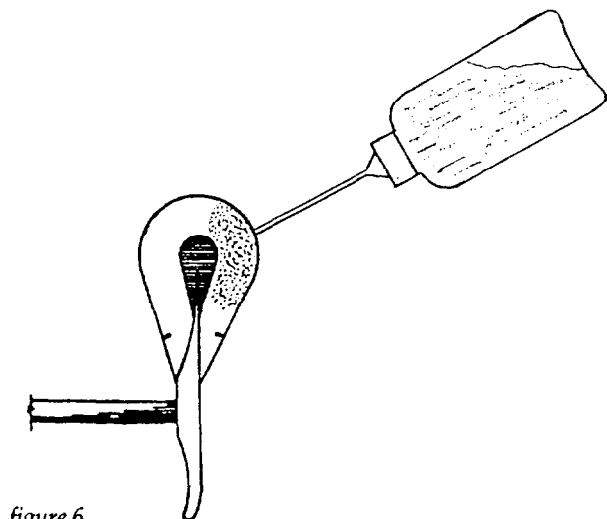

figure 6
Lacquer applied in the proportions listed above is easy to control, that is once the lacquer has dried the tone can readily be adjusted using the techniques described herein. A double dose could be required for some hammers. If a 15:1 solution does not produce the desired result it is gradually strengthened until the hammers have enough tone to continue the voicing process. For some pianos, 15:1 lacquer solution applied to some or all hammers will provide the margin of tone needed. Another may require 15:1 to all 88 followed by 12:1 in the first treble section, 9:1 in the upper treble and 3:1 for the last four treble hammers. Each set of hammers will require a different treatment schedule. Figure 6 illustrates the technique for applying the lacquer solution. A small squeeze bottle known as a "hypo" is recommended.
2. Applying the fiber-coating solution. a) Play over the entire keyboard and mark the keys where dull-sounding hammers will require the solution. b) Start with a solution of no less than 15 parts acetone or lacquer thinner to one part clear gloss lacquer. *A solution that is too heavy can ruin the hammers.* c) Apply the fiber-coating solution to the shoulders of the hammer approximately at the junction of the A and B sections on both sides of the hammer. (see figure 6) d) Stop the application when the solution begins to run down the hammer tail and spread into the C section. The entire hammer will be wetted. e) The solution must dry completely (preferably overnight) before continuing the voicing pro-